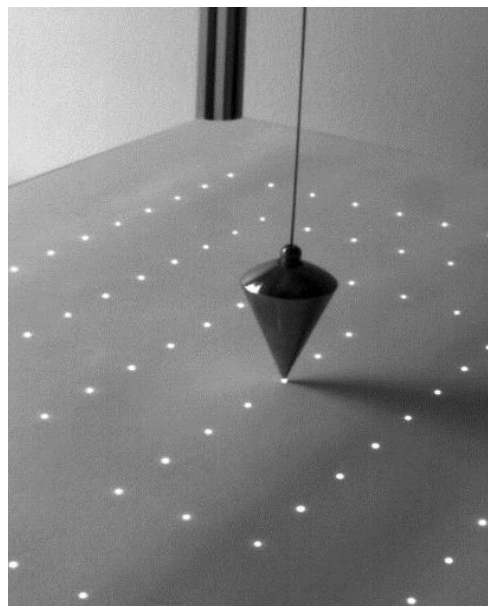

Figure 11: Plumb bob for alignment
2. Lateral Alignment Tray ↔ Plate: Use a plumb bob to ensure that the vector from the pattern center (typically a red, visible LED) to the camera's lens center is as short as possible, i.e. the vector is normal to the target plate. For this, it may be required to guide the plumb bob through a mechanical camera dummy with central bore instead of a lens, so that a lateral precision of < 1 mm can be achieved. Use the plumb's cord to measure the exact distance – cf. Figure 11.